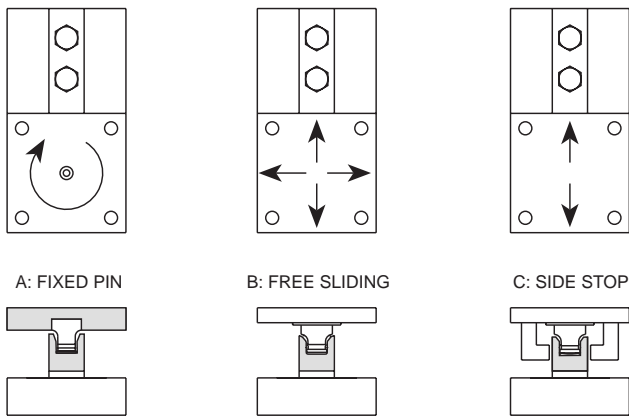

Figure 2-14
- Jacking Screw and Lift-Off Protection:** Each module consists of a base plate to which the load cell is screwed and a top plate through which the load is introduced; see Figure 2-14. A safety check screw is rigidly fixed to the top plate and passes through a large clearance hole in the washer plate attached to the base plate. This screw prevents lift-off and also may be used to jack up the empty vessel for load cell replacement.